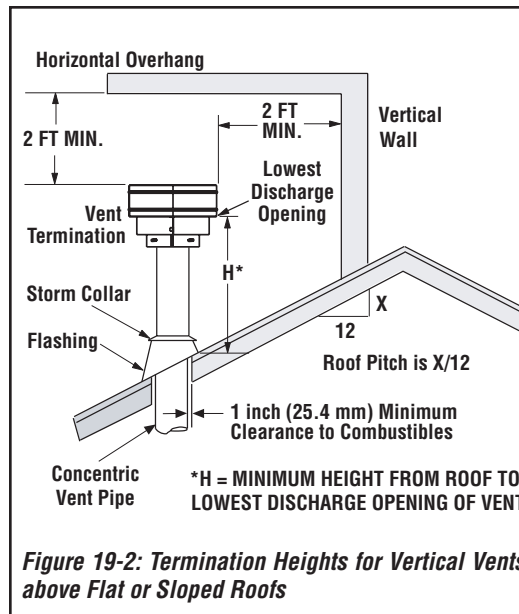

Figure 19-2: Termination Heights for Vertical Vents above Flat or Sloped Roofs
- Terminate single vertical vent caps relative to other existing building components, as shown in **Figure 19-2**.
Extend the vent sections to the height shown in "Vertical Vent Termination Clearances" (**Figure 19-2**).